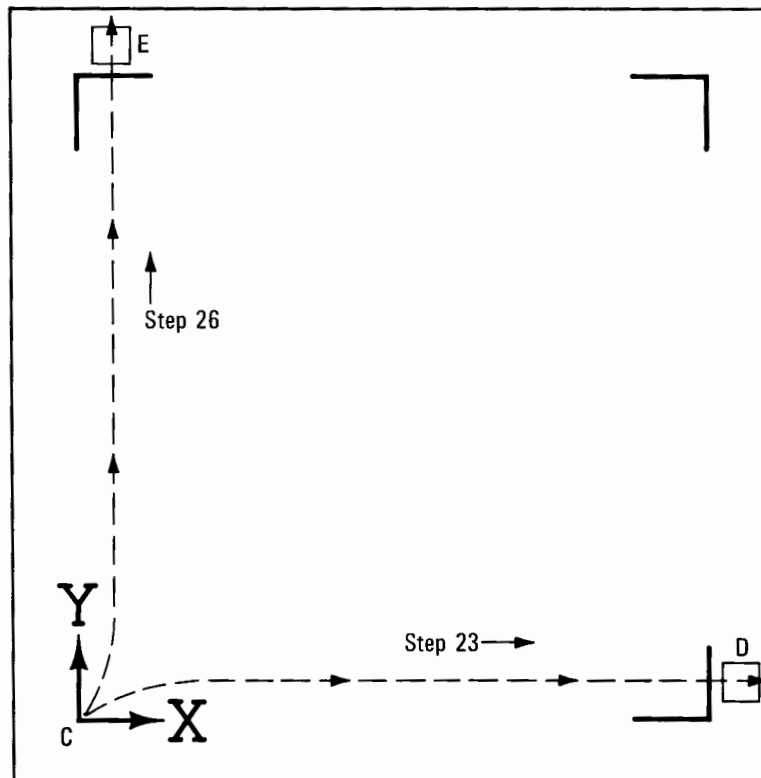

Figure 2. Cursor Motion During the Digitizing Area Size Check
20. Referring to Figure 2, position the cross-hairs over point C.
Referring to Figure 2, slide the cursor along the path indicated by the horizontal dotted line. Slide the cursor off the edge of the platen. As the cursor moves through the region marked D, you should hear a beep lasting approximately three-quarters of a second, and the sample light should go out.
25. Position the cross-hairs over point C again. Press and then press ; the sample light should begin blinking. Referring to Figure 2, slide the cursor vertically toward the edge of the platen. As the cursor moves through the region marked E, you should hear a beep lasting approximately three-quarters of a second, and the sample light should go out.